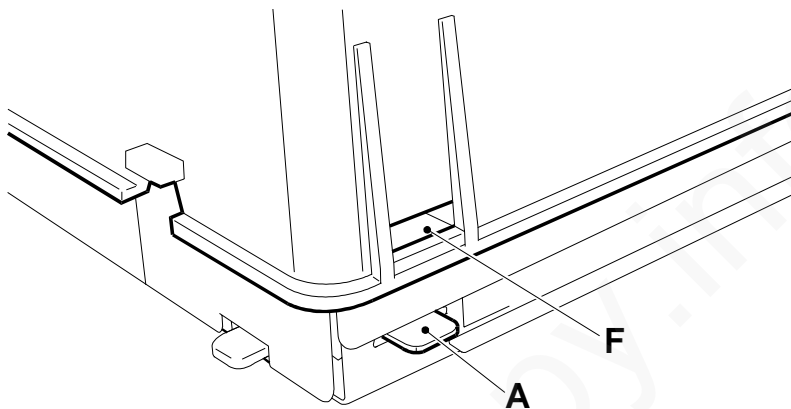

Fig.7-15
Caution In reassembling the machine, ensure that the rear tabs (A) of the base are properly inserted in the corresponding slots F (Fig. 7-15):